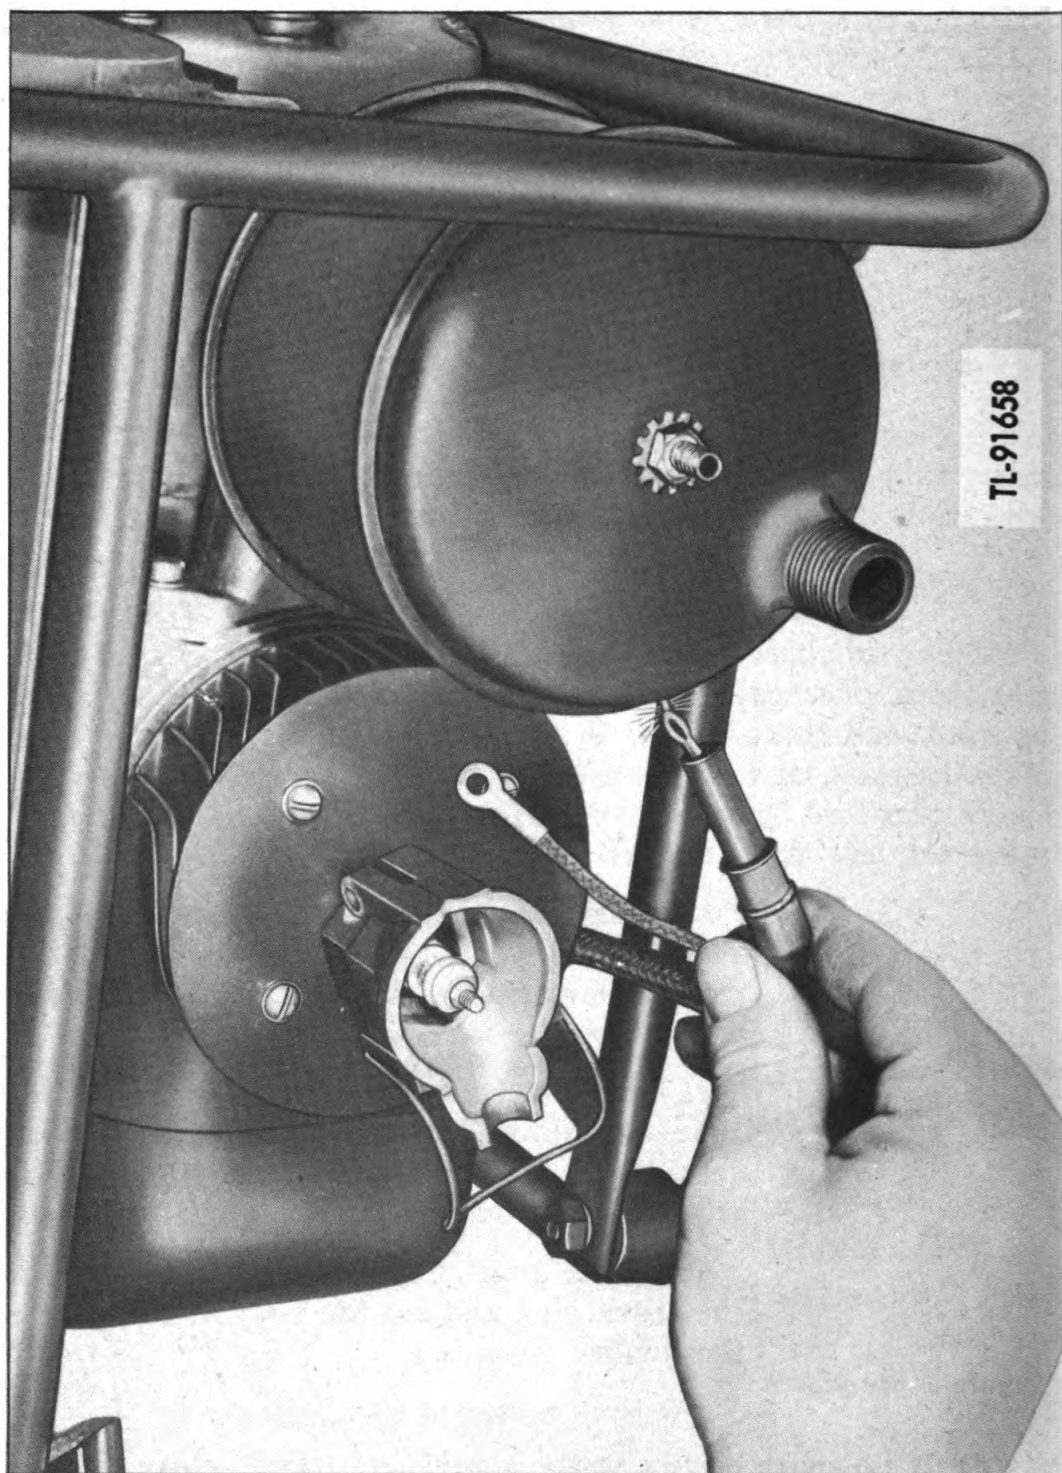

Figure 10. *Test for spark output*
(3) If the spark plug is removed and the points are found to be wet, it is an indication that the engine is being operated with too rich a fuel mixture, or the ratio of gasoline to oil is not correct.
b. Magneto. (1) If there is an indication that the magneto is causing trouble, test the magneto before attempting to repair it. If the engine refuses to start after it is determined that the spark plug is all right, check the magneto by removing the high-tension wire from the spark plug and hold the end of the wire about 3/16 inch away from a point on the engine (fig. 10). When the engine is cranked in the usual manner, a properly performing magneto will have a spark output strong enough to jump the prescribed gap.
(2) If the spark produced will not meet the above test, it is very likely the breaker points require adjustment and should be gapped to 0.020-inch opening. The only adjustable part of the magneto is the breaker plate, which provides adjustment for the breaker points.
(3) To adjust the breaker points, proceed as follows: